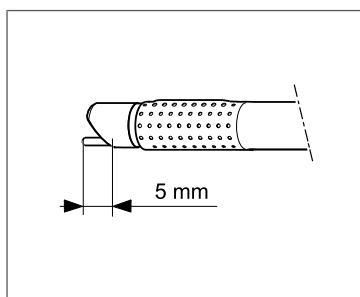

Fig. 21
- ▷ the tip of the laser fiber appears fully in the field of view of the telescope (3) and
The laser fiber must protrude at least 5 mm from the resectoscope sheath when the working element (2) / working insert (2a) is in the rest position (Fig. 21).